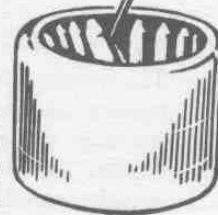

Figure 8—Needle Bearing Wear
b) Check the needle bearings in Model 7-29 front-half crankcase. The needles must be free. If the needles can be separated more than the width of one needle bearing, or if there is a flat visible on any needle, they are worn and the bearings must be replaced. (See Figure 8—1.) Use large end of Tool #23176 from inside crankcase to push out bearings and seal. See Special Tools, Section 10 for proper procedure to install new bearings and garlock seal in the front-half crankcase. When installing needle bearings, always press against the lettered end of the bearing race.